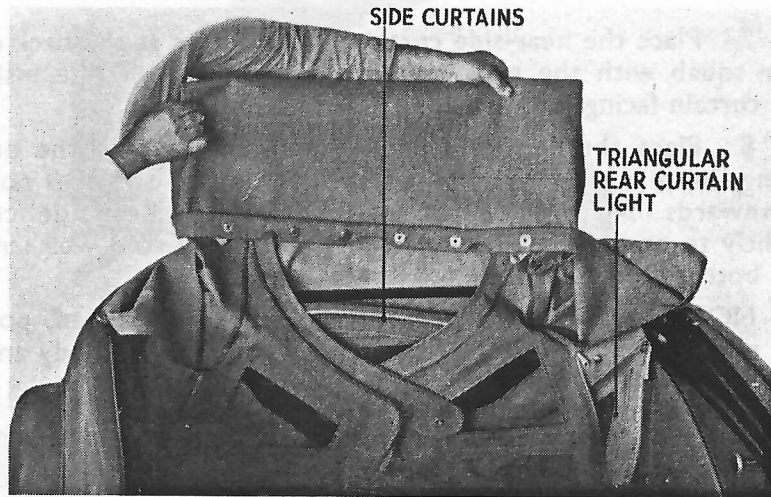

Fig. 27. Folding Rear Curtains and Hood.
9. Fold inwards the off-side rear side curtain along the seam of the triangular light, and place the complete rear side curtain against the offside curtain, as shown in Fig. 27, page 48.